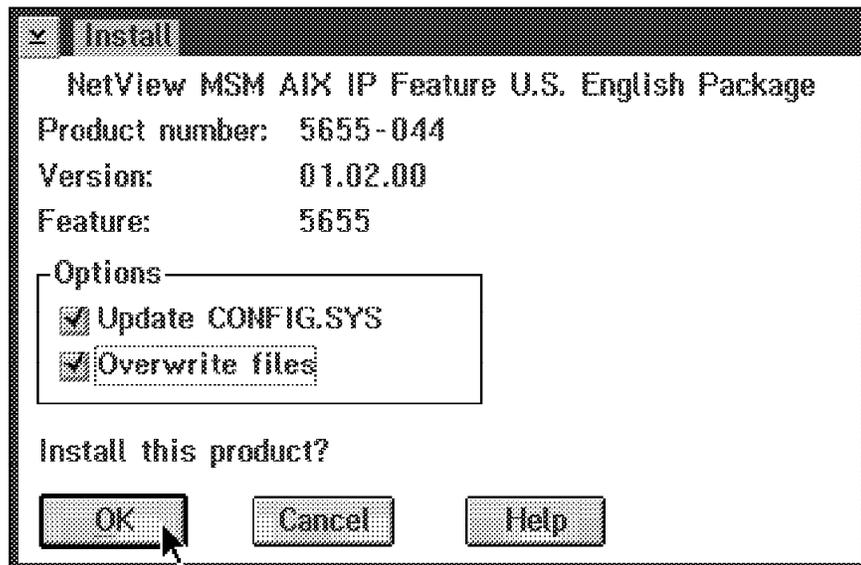

Figure 120. Install Window
- Select **Action** then **Install...** from the menu bar. As a result Software Installer for OS/2 should present a window like the one shown in Figure 120.